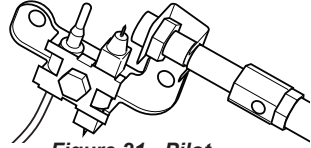

Figure 21 - Pilot
- With control knob pressed in, push down and release ignitor button. This will light pilot (Figure 21) The pilot is attached to the rear of the front of burner. If needed, keep pressing ignitor button until pilot lights. *Note: If pilot does not stay lit, refer to Troubleshooting, pages 21 through 24. Also contact a qualified service technician or gas supplier for repairs. Until repairs are made, light pilot with match. To light pilot with match, see Manual Lighting Procedure below.*